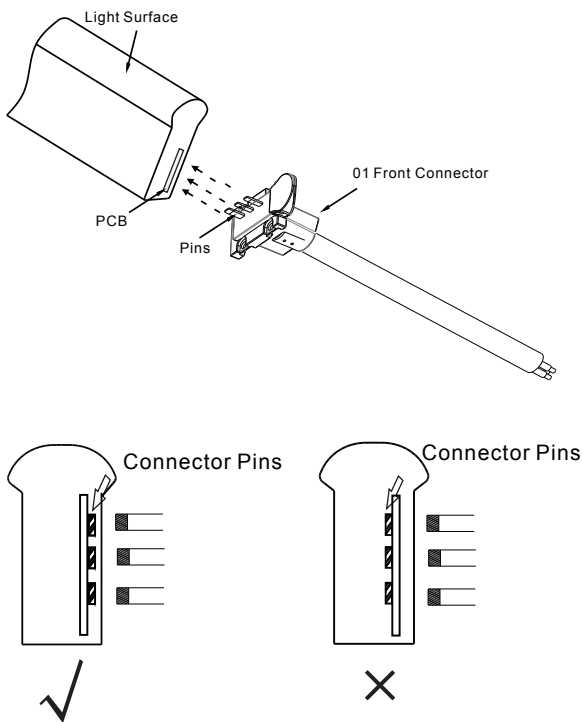

Fig.7 Energizing Method
6. Max. running length depends on the energizing way as Fig.7 shown.